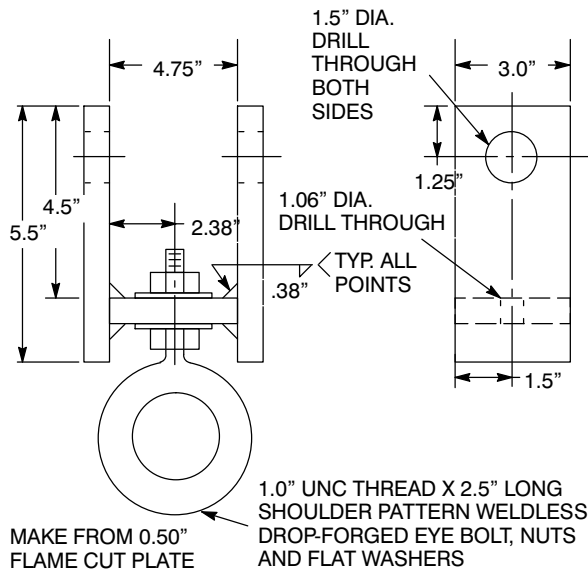

Figure E-4. Lifting Brackets With Eyes
It is recommended that the pump be positioned upside-down during disassembly. To hold the pump in the inverted position, rest the pump securely on blocks. Two brackets with lifting eyes may be fabricated for this purpose as shown in Figure E-4. Be careful not to damage the terminal housing and cable assembly (65) while in this position. Use adequate equipment and personnel to safely handle the pump until it is secured. If invert-